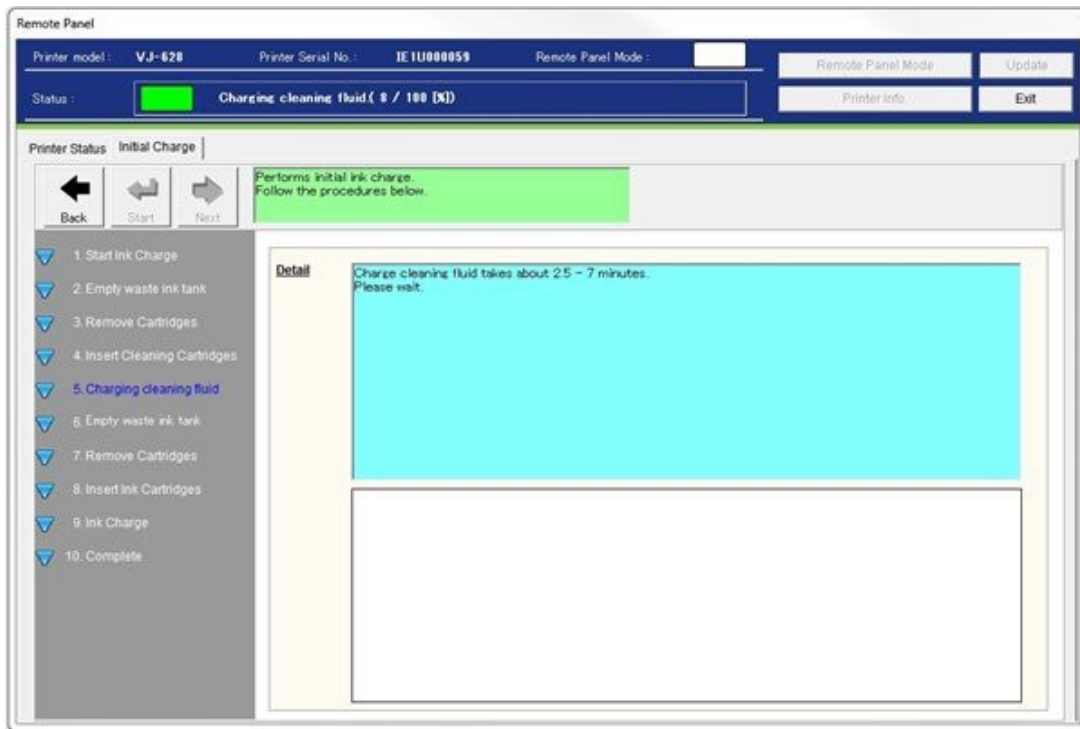

Figure 56
43. The head wash cleaning function will automatically begin after the last cleaning cartridge has been successfully inserted into the printer. The cleaning process takes about 2.5 minutes. See Figure 56.